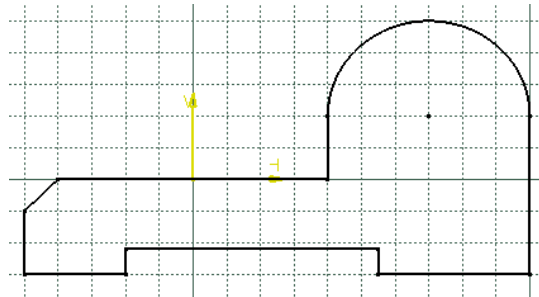

Figure 2-52 The completed outer loop of the sketch
- Draw the sketch of the model using the **Line**, **Arc**, and **Circle** tools, refer to Figures 2-52 and 2-53.
22. Choose the **Fit All In** button from the **View** toolbar to fit the current sketch into the screen. The completed outer loop of the sketch is shown in Figure 2-52. Note that in this figure, the display of constraints and dimensions is turned off using the **Hide/Show** tool for clarity.